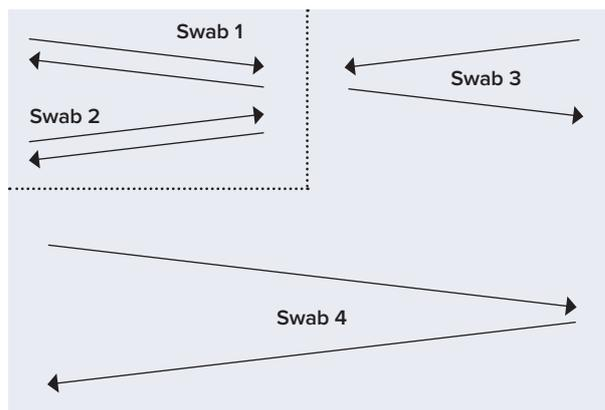
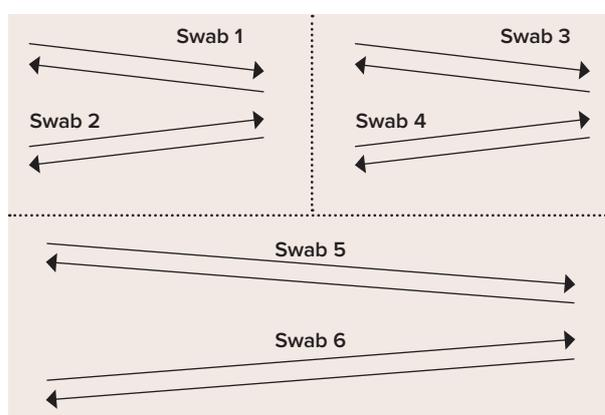

Figure A3 - Swabbing procedure for deep litter sheds with two pens
Figure A4 - Swabbing procedure for deep litter sheds with three pens
- Each swab is to be held by the string and dragged twice the full length of each pen over different areas of litter in the patterns described in Figure A3 (two pens) and Figure A4 (three pens).